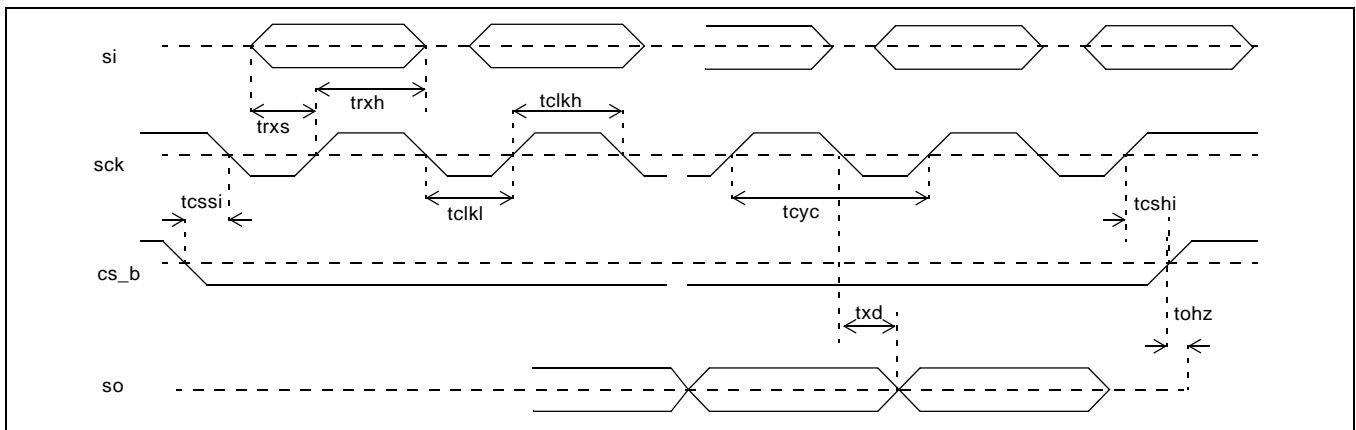

**Figure 23 - Output Clock Fall and Rise Times**
**AC Electrical Characteristics\* - Output Clock Fall and Rise Times1 (See Figure 23).**